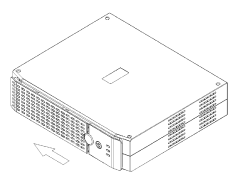

Fig. 1
- Press fastener to remove the battery cover plate on the front of the UPS (Fig. 1 & 2).
- Close the battery cover (Fig. 1).